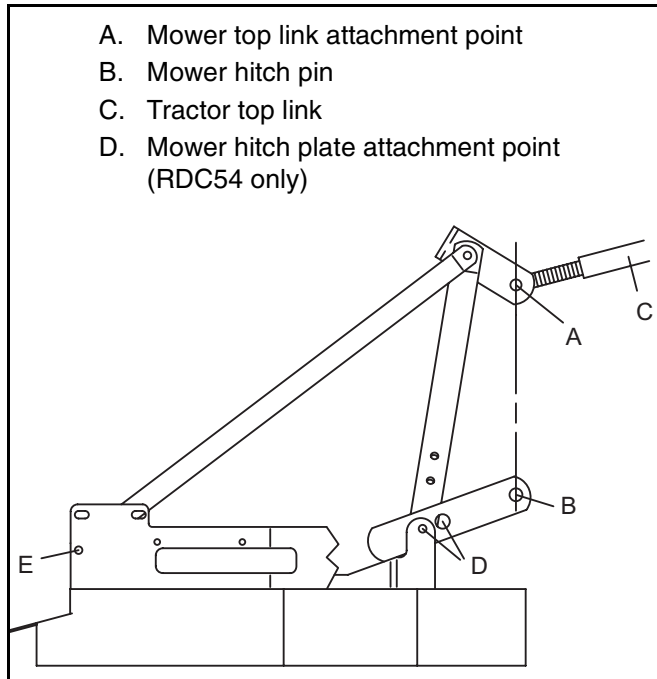

Figure 4. Top Link Adjustment
When the cutting height is set, adjust tractor top link until mower top link attachment point (A), Figure 4, is aligned vertically with mower hitch pin (B). The front tires of the mower will lift off the ground before the rear tires when the unit is raised. This will allow the mower to follow the ground contour.